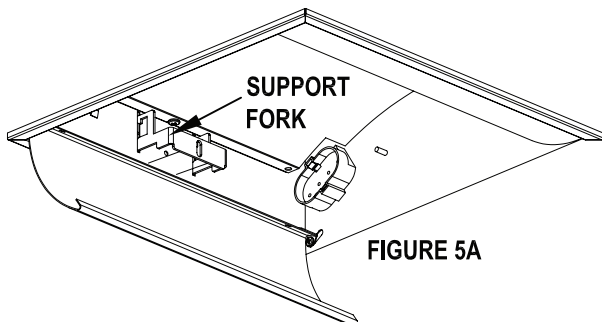

FIGURE 5A
5. INSERT SUPPORT FORK THROUGH SLOTS IN HOUSING, ENGAGE FORK OVER HANGER, AND SECURE WITH SUPPLIED #8 SCREW. REPEAT PROCEDURE FOR OTHER SIDE (FIGURE 5A & 5B)